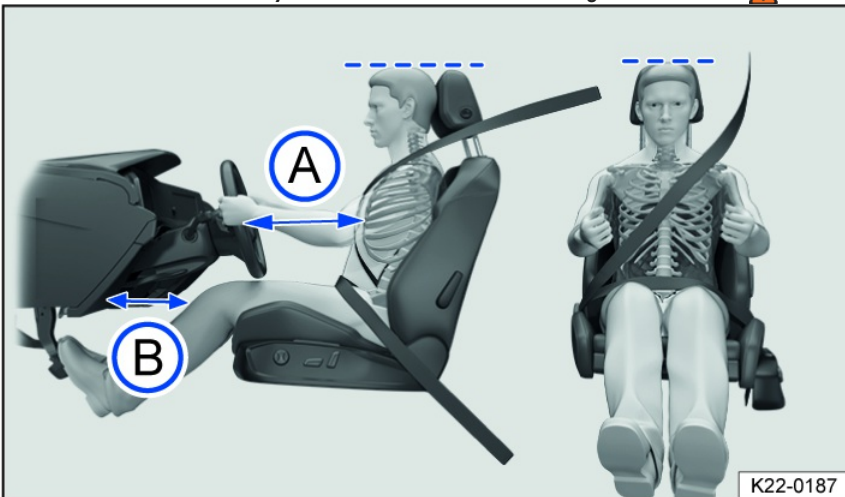

Fig. 14 General example: correct distance between the driver and the steering wheel, correct safety belt routing and correct head restraint adjustment.
- Adjust the head restraint so that the upper edge of the head restraint is in line with the upper portion of the head as much as possible, but not lower than eye level. Position the back of the head as close as possible to the head restraint *fig. 14*.
- Adjust the forward/back position of the driver seat so that you can press the pedals while your legs are slightly bent and there is at least 10 cm (around 4 inches) of space between the instrument panel and your knees *fig. 14*.
- Adjust the steering wheel so that the distance between the steering wheel and your chest is at least 25 cm (around 10 inches) *fig. 14* and you can hold the steering wheel firmly at the sides with both hands and your elbows slightly bent.